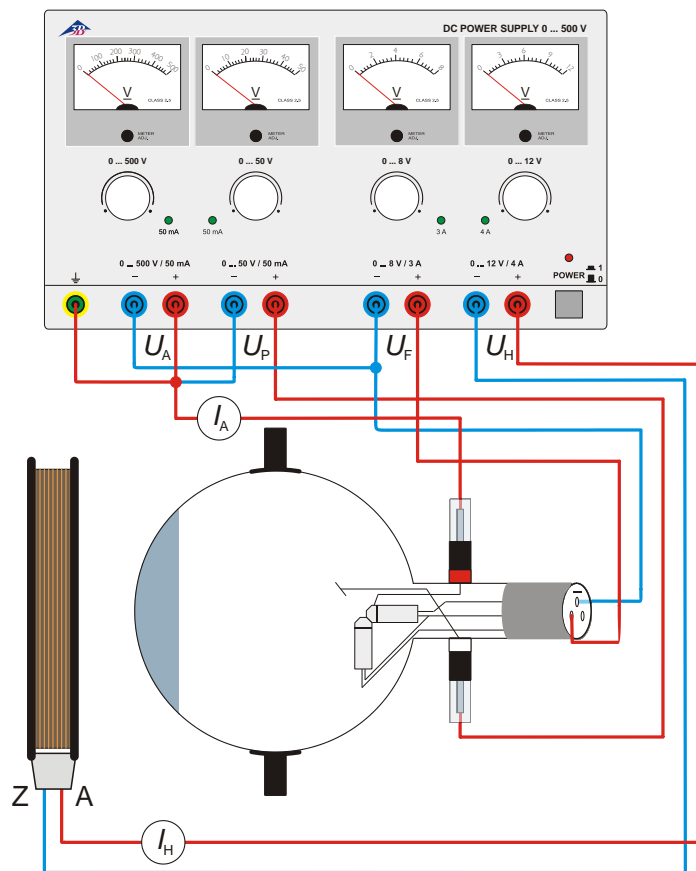

Fig. 6 The effect of an axial magnetic field
- Connect up the tube as in Fig. 6.